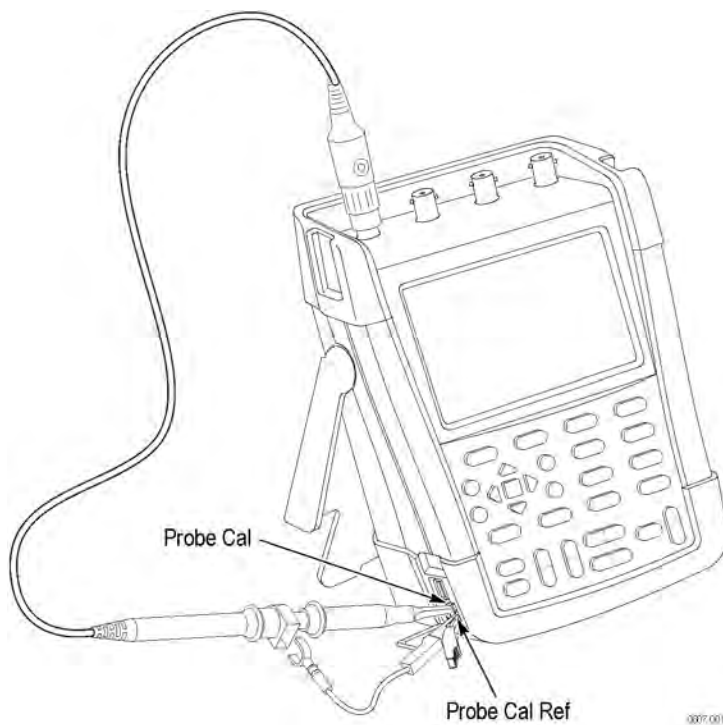

Figure 40: Compensating voltage probes
4. Attach the probe tip and reference lead to the probe calibration connector located above the USB port on the left side of the instrument. (See Figure 40.)